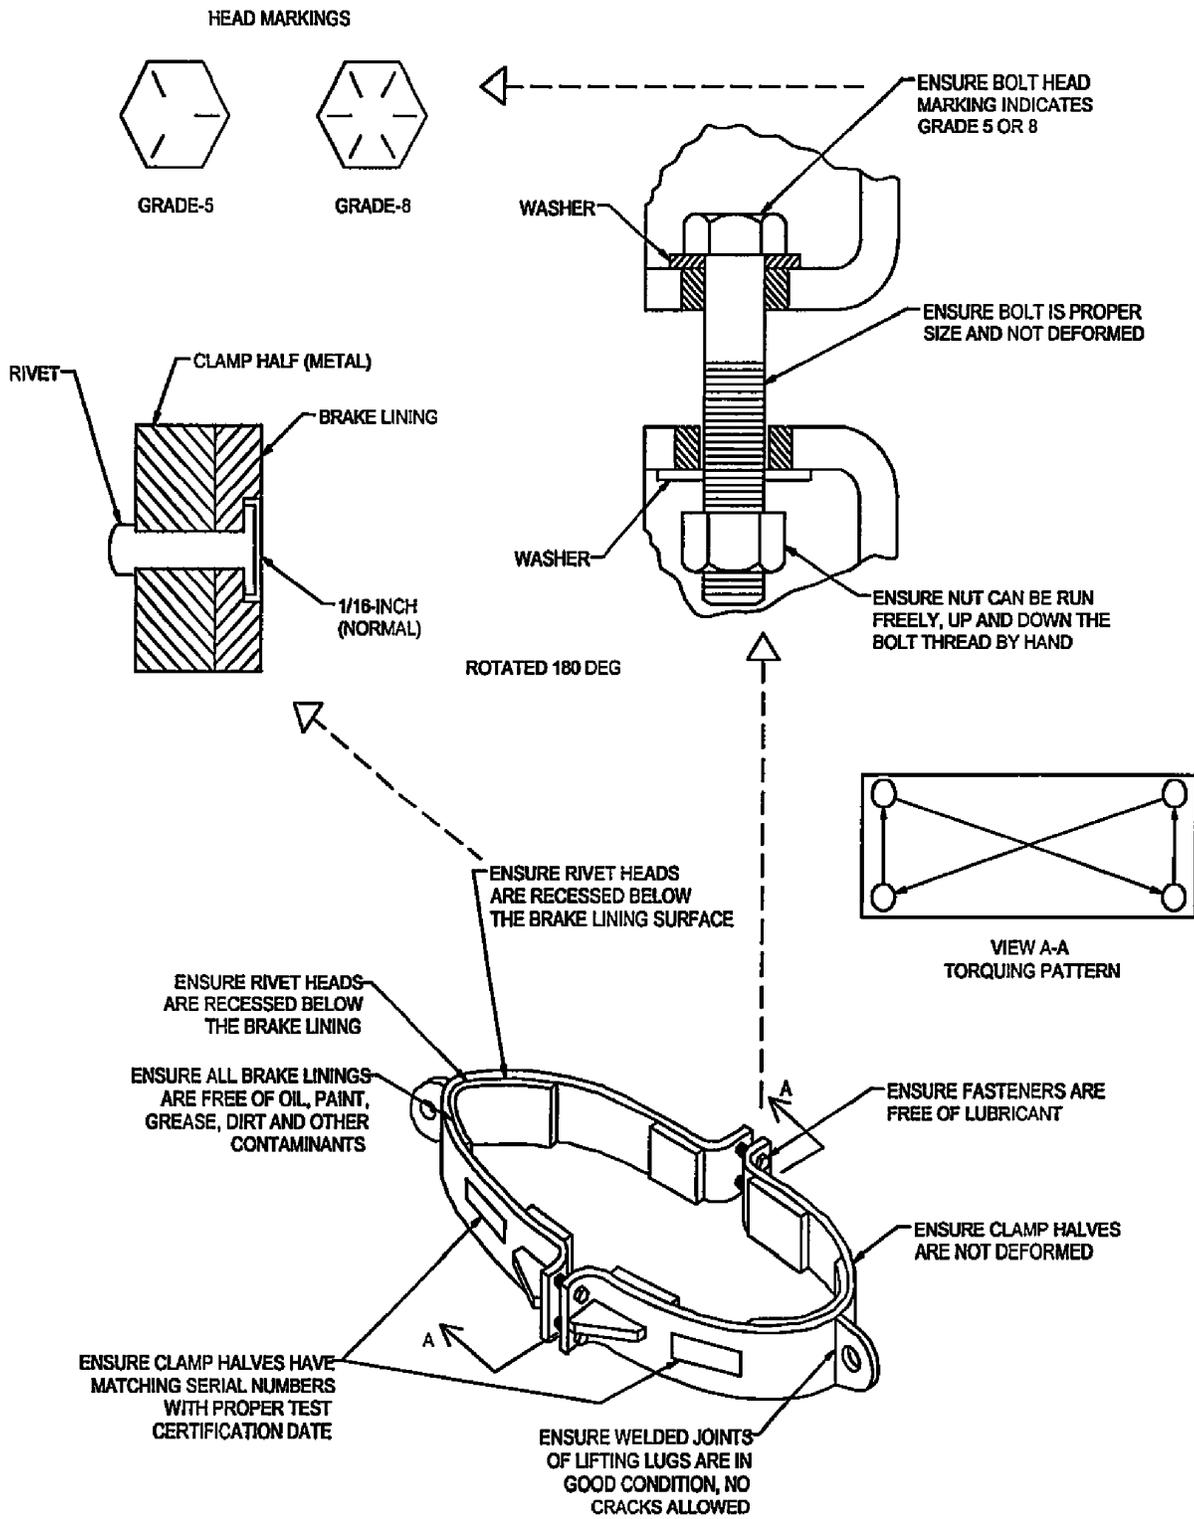

Figure 2-1 Mast Clamp Pre-Installation Inspection
- b. Inspect all clamps before each use for handling masts and periscopes. See Figure 2-1. Ensure that:
- (1) The brake lining material is firmly anchored to the metal part of the lifting clamp and is the proper thickness as specified in Reference \(a\).
- (2) The brake lining material is free from oil, paint, grease, dirt, or other contaminants. If the brake lining material becomes contaminated, clean it by washing with one of the solvent specified in Reference \(m\).
- (3) The weld joints on the lifting lugs (padeyes) are integral with the body of the clamp. No cracks or linear indications are allowed.
- (4) Clamp weight and holding capacity tests have been conducted and are current. Test data are stamped on the clamp tags in accordance with Reference \(a\).
- d. Torque the four holddown nuts on the clamp sequentially as illustrated in Figure 2-1 and in uniform increments until the proper torque value provided in Table 3-1 has been attained on each bolt.
3. The bolts should be cross-tightened as shown in Figure 2-1. It may be necessary to cross-tighten two or three times before an even tightness is reached.